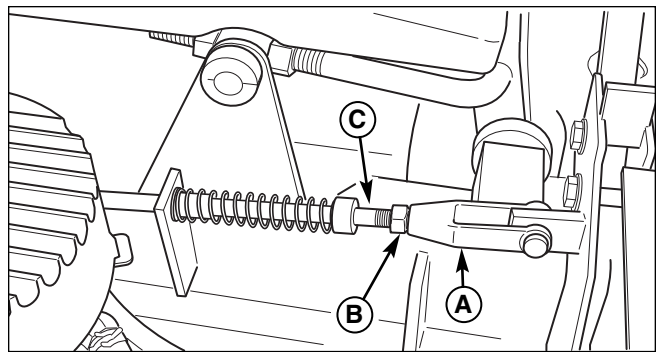

Figure 32. Neutral Spring Return Adjustment
3. Move the ground speed control levers out towards the neutral position. If the levers do not align with the notches in the neutral lock plate, it is necessary to adjust the neutral return rod (C, Figure 32).